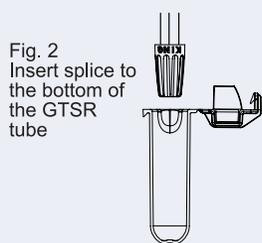

Fig. 2
5. Insert the splice to the bottom of the sealant filled tube. Fig. 2